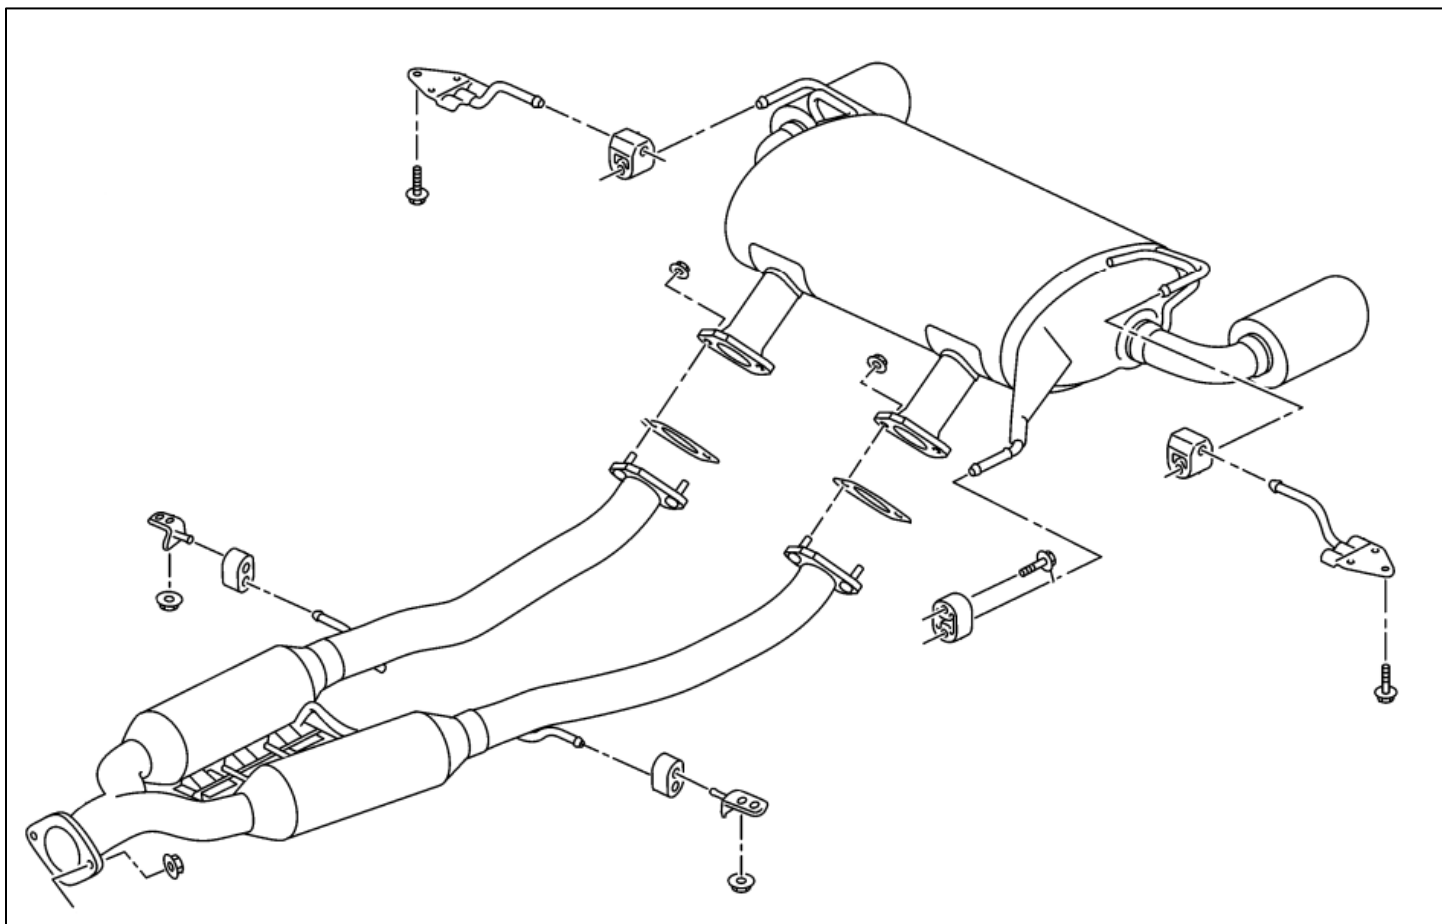

Figure 1
3. Remove the OE Catback Exhaust System but leave the Rubber Exhaust Hangers. If you are replacing the Y-Pipe, do this at this point as well. Use a Rust Penetrant on all exhaust hardware to help easily remove the hardware. *Figure 1.*